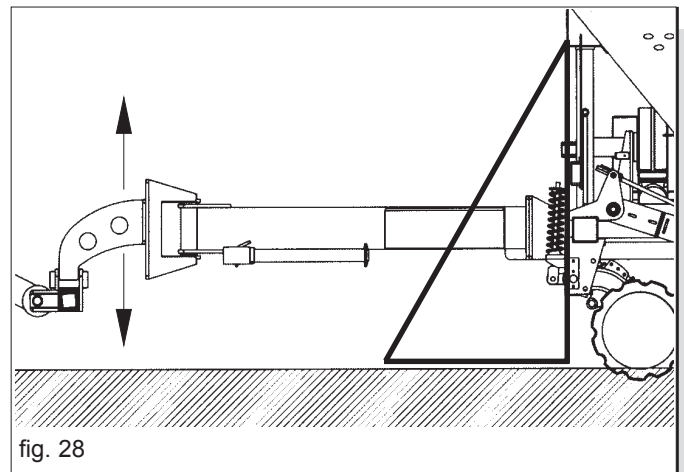

fig. 28
b) the position of the coupling of the first and second point for a towed machine (Fig. 28).